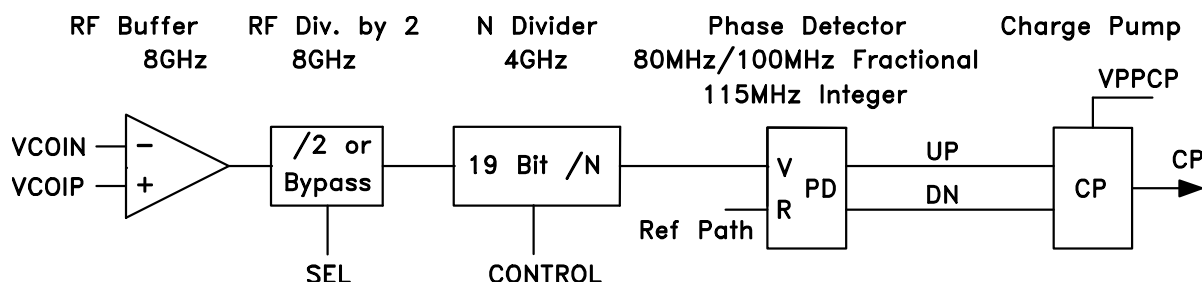

Figure 36. RF Path
The RF path is shown in Figure 36. This path features a low noise 8 GHz RF input buffer followed by an 8 GHz RF divide-by-2 with a selectable bypass. If the VCO input is below 4 GHz the RF divide-by-2 should be by-passed for improved performance in fractional mode. The RF divide-by-2 is followed by the N divider, a 16 bit divider that can operate in either integer or fractional mode with up to 4 GHz inputs. Finally the N divider is followed by the Phase Detector (PD), which has two inputs, the RF path from the VCO (V) and the reference path (R) from the crystal. The PD can operate at speeds up to 100 MHz in fractional Mode B (recommended), 80 MHz in fractional Mode A and 115 MHz in integer mode.